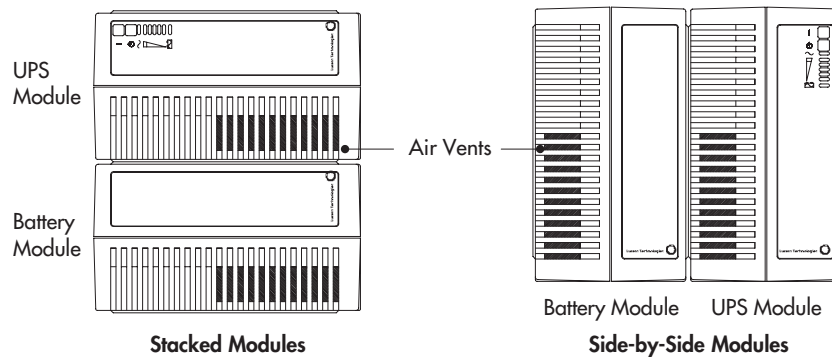

Figure 3. Module Setup
- 2** Place the battery modules underneath or beside the UPS as shown in Figure 3. If earthquake bracing is required, the UPS must be positioned vertically (see Chapter 8, "Seismic Installation" on page 51).